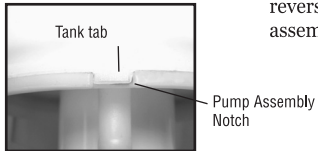

Figure 6
10. Reassemble backwards from step 6 thru 2, performing each step in reverse. Note: there is a notch/tab combination in the pump assembly/tank to be used for alignment (fig. 6).